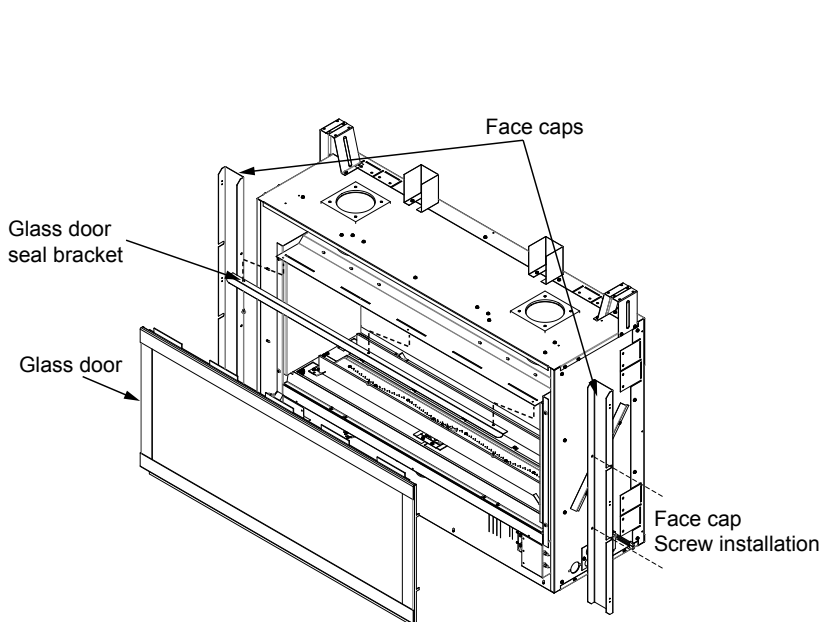

Figure 3. Install glass door and face caps
4. Install face caps to left and right sides of fireplace using supplied screws. Figure 3.
5. Install the glass door seal bracket with the three (3) Phillips pan head screws that were on the top of the inner firebox. Figure 3.